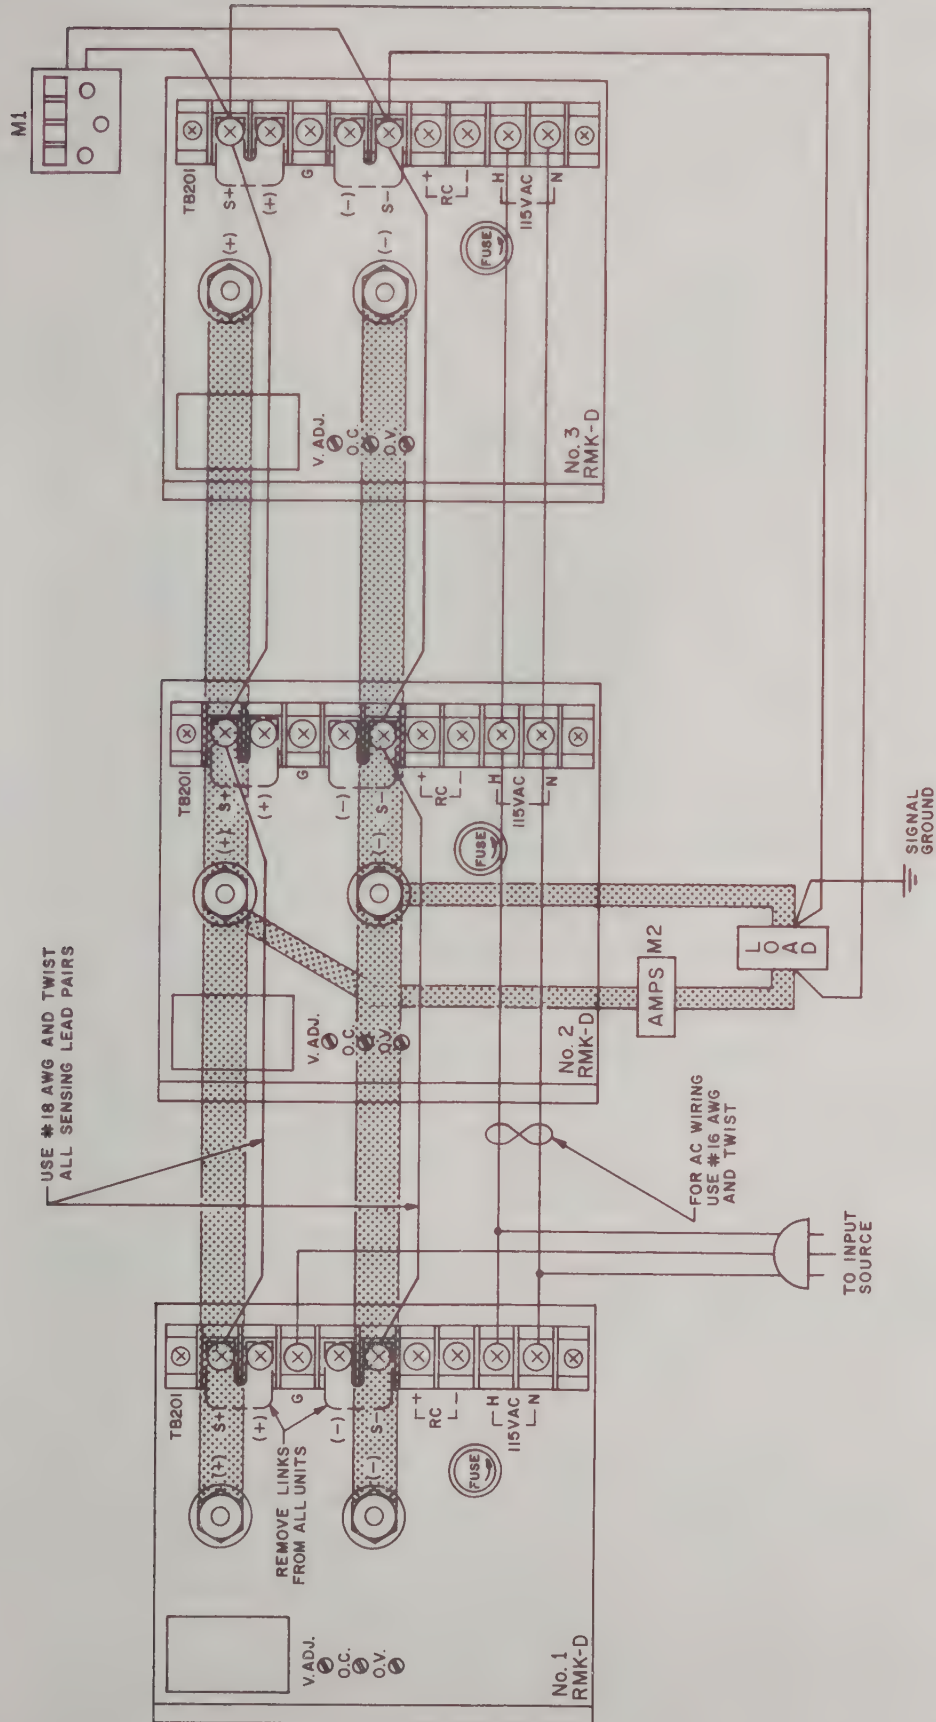

FIG. 3-6 THREE (3) POWER SUPPLIES CONNECTED IN PARALLEL, WITH ERROR SENSING AT THE COMMON LOAD.
3-27 The power supplies are rack-mounted as shown in FIG. 3-6 and are, therefore, physically close together. To inter-connect the output terminals and the load, heavy copper bus-bars are used to keep voltage drops to a minimum. Wire gage for the error sensing leads and the input source wiring are noted in the set-up diagram (FIG. 3-6).
STEP 1) Connect RMK supplies as shown in FIG. 3-6.
Note: Leave the (+) bus from Supply #2 to the load open and connect an accurate d-c ammeter of suitable range between the (+) bus and the load (M2 in FIG. 3-6). Monitor output voltage with a digital voltmeter (M1 in FIG. 3-6).
STEP 2) Turn power supply system "on" and monitor load voltage and current as indicated in FIG. 3-6.